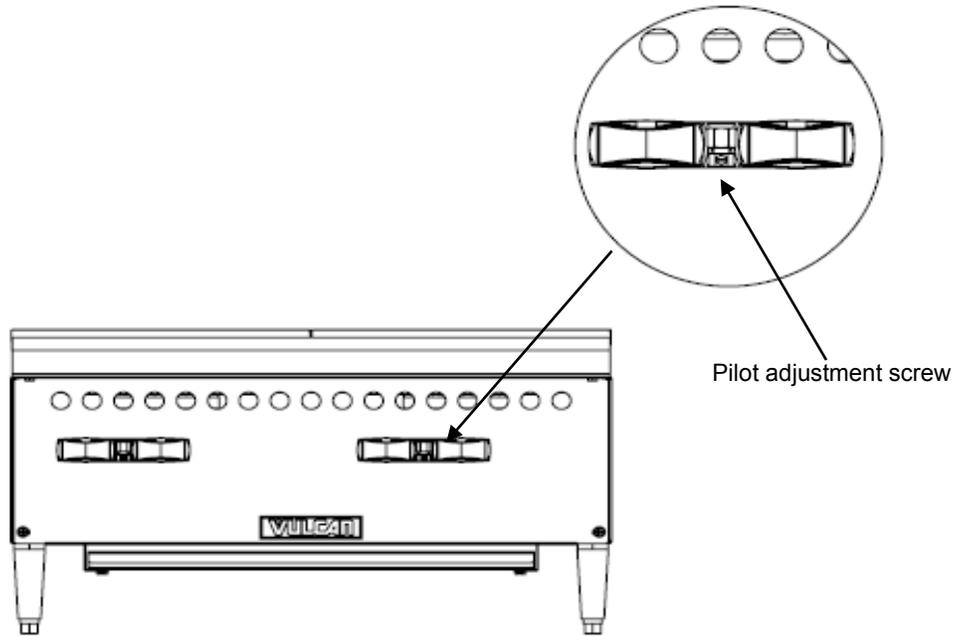

Fig. 6
3. Turn main gas shut-off valve ON. Light the pilot between each two main burners. Pilot can be accessed under the grate support beam running from left to right. Adjust the pilot valve screw (See Fig.6 on page 8) until the pilot flame has a slight yellow tip.
Using a flathead screwdriver, turn the slotted hex-head pilot adjustment screw clockwise to decrease the flame, and counterclockwise to increase the flame. See Fig. 6.